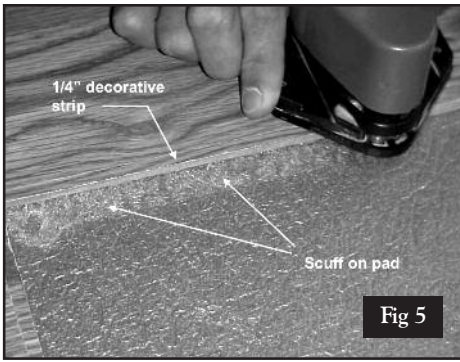
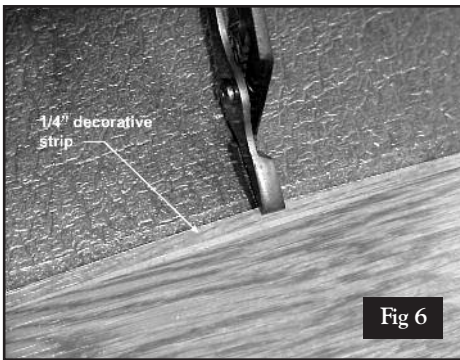

Fig 5
Fig 6
6. Set-up a router and dado bit (Part #H1000545) so that the bit scuffs the top of the underlayment padding (see Fig. 5). Using the router, machine along the inside of all four (4) edges of the saw cut opening. Now, using channel lock pliers carefully remove the 1/4" decorative strip from the inside edge(s) of the plank/tile opening (see Fig. 6). Note: Repair any cut or tear damage to the vapor barrier with polyethylene or foil tape.